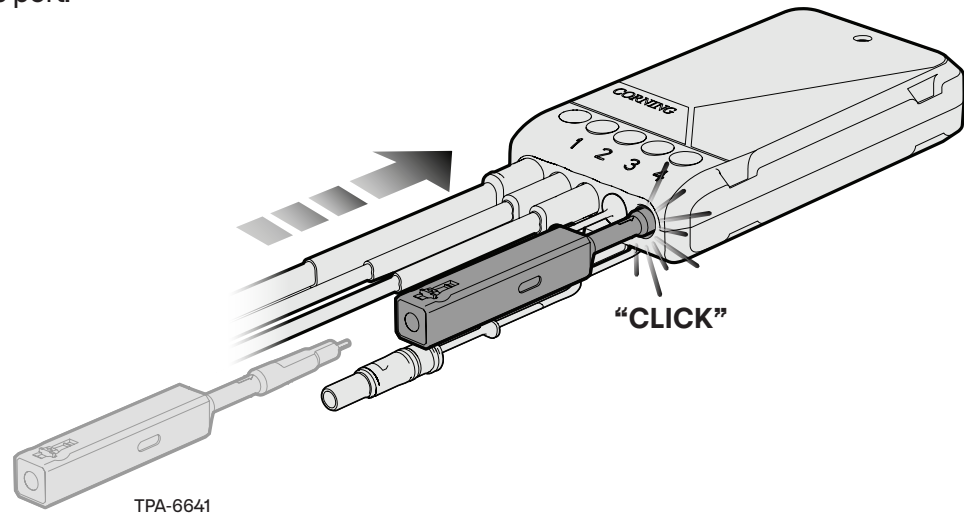

Figure 9
Step 1: Remove the protective plug from the port where the connector will be mated (Figure 9).